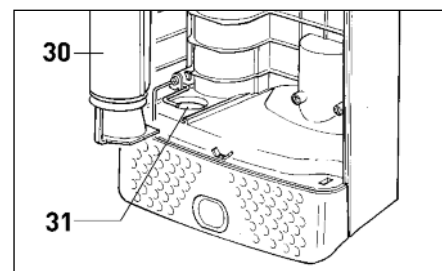

Figure 11
3. Microfilter not properly inserted.	3. Lift safety lever and insert filter with vertical plastic ridge on filter facing you (see pg. 9, figure 11).